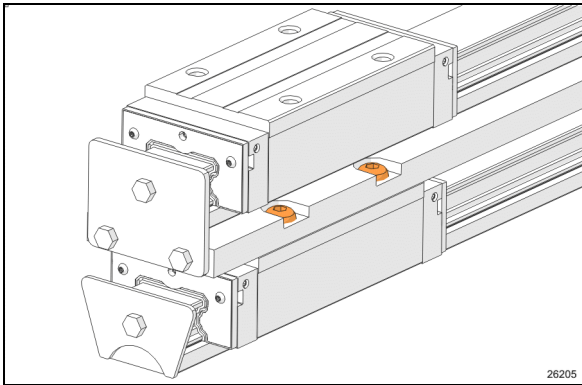

FIGURE 47: BEARING CARRIAGE MOUNTING SCREWS
6. Turn the assembly upside down to access and remove the bearing mounting screws (Figure 47).